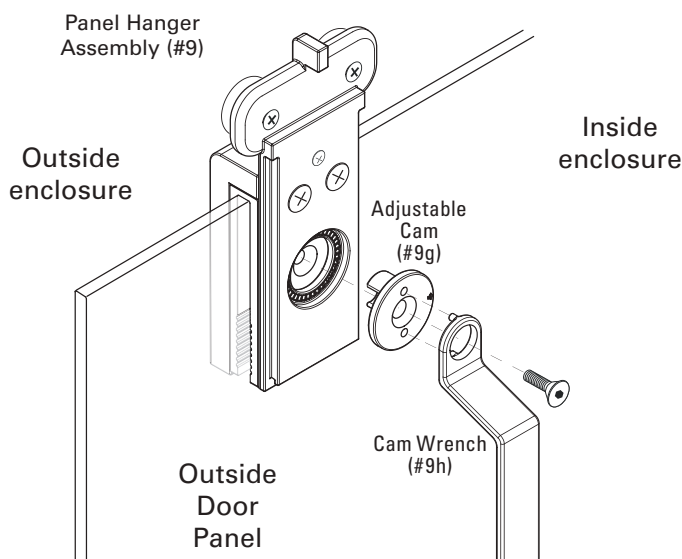

Figure 8
H. Insert an Adjustable Cam through the opening of one of the T-Bracket Housings and into the Door Panel (See **Figure 8**).